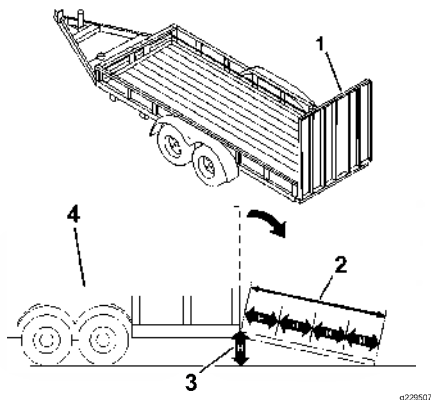

Figure 28
**Loading a machine onto a trailer or truck increases the possibility of tip-over and could cause serious injury or death (Figure 28).**
3. Lower the ramp (Figure 28).